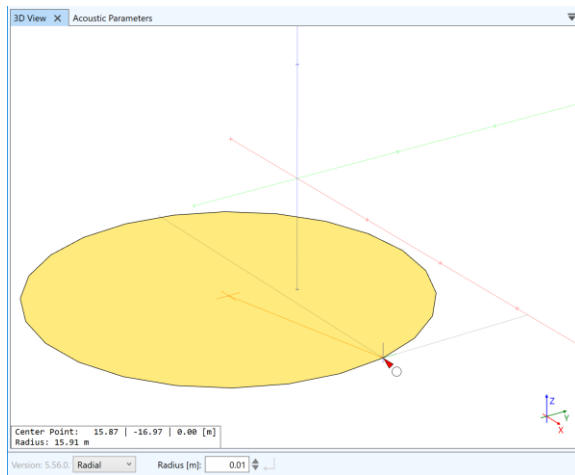

Figure 7.23 Inserting a circular face: Preview while defining a point on the circumference.
2. Determining the circumference of the circle by selecting a point that is on the circle in 3D coordinates or by entering the radius of the circle (Figure 7.23).